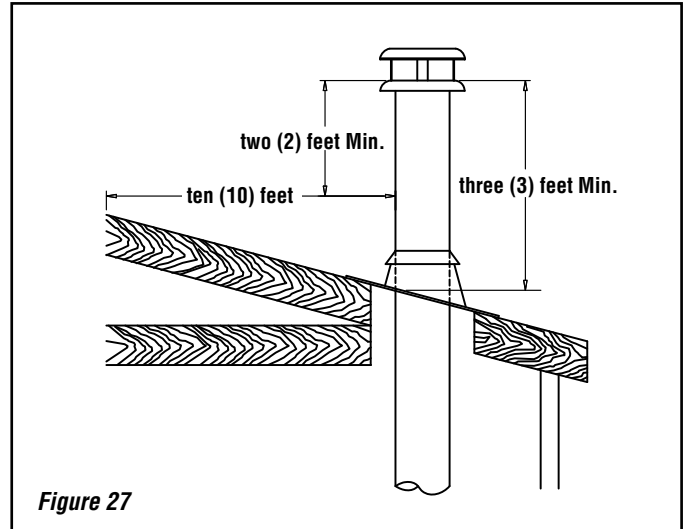

Figure 27
7. The chimney must extend at least three (3) feet (915 mm) above its point of contact with the roof and at least two (2) feet (610 mm) higher than any wall, roof or building within ten (10) feet (3m) of it (**Figure 27**).
8. If the chimney extends higher than five (5) feet (1,500 mm) above its point of contact with the roof, it must be secured using a roof brace.